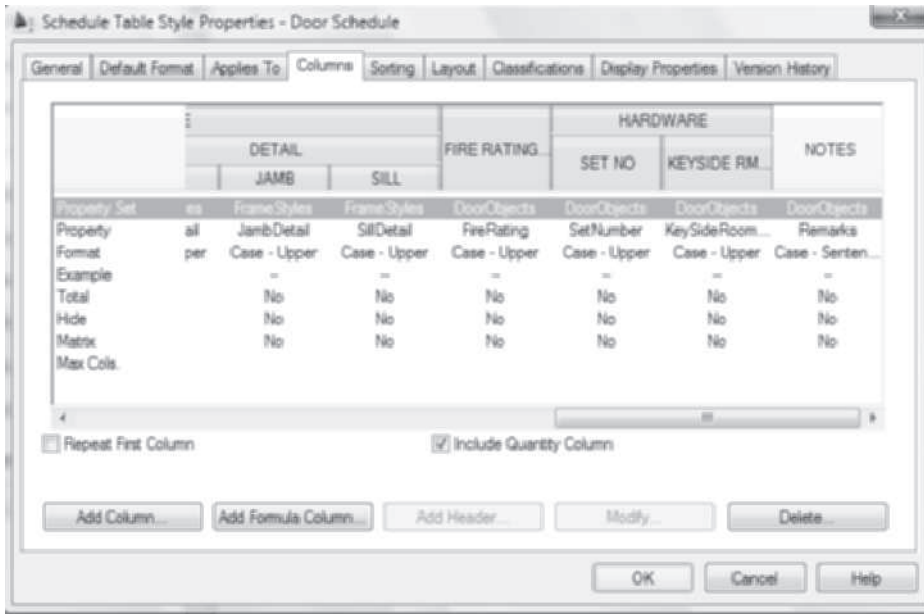

FIGURE 11.86 Deleting columns from a schedule
14. Select the schedule, and choose **Edit Style** from the General panel of the Schedule Table tab. Select the **Columns** tab and check **Include Quantity Column**. Referring to Figure 11.86, hold down **CTRL** and select the following headings: